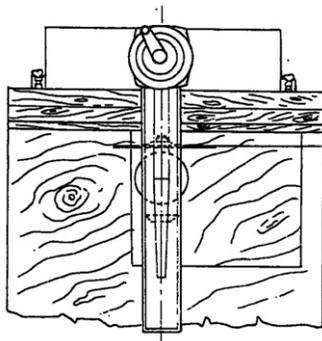
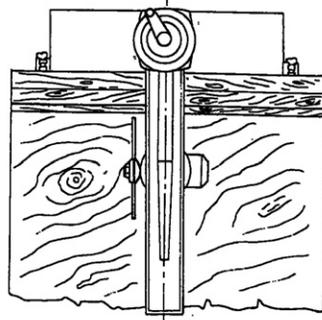
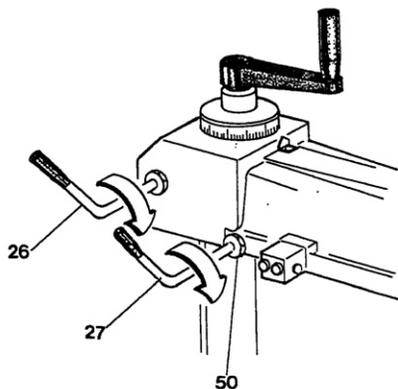

Fig. 18
Fig. 19
Fig. 20
Align in parallel the blade to the supporting bar (see fig. 18). Insert the arm positioning lever in the column (27) sector and lock the lever (26) (see fig. 20). Place a board against the supporting bar, cut it along the whole carriage stroke and check that the cut is at right angles (see fig. 19).
- 1) Release the arm locking handle (26) (see fig. 20) working on the adjusting dowels (50), position in the right direction in order to eliminate the defect verified. Subsequently, tighten the nuts making sure that the positioning (27) lever is well inserted in the column sector and tighten the locking lever (26).